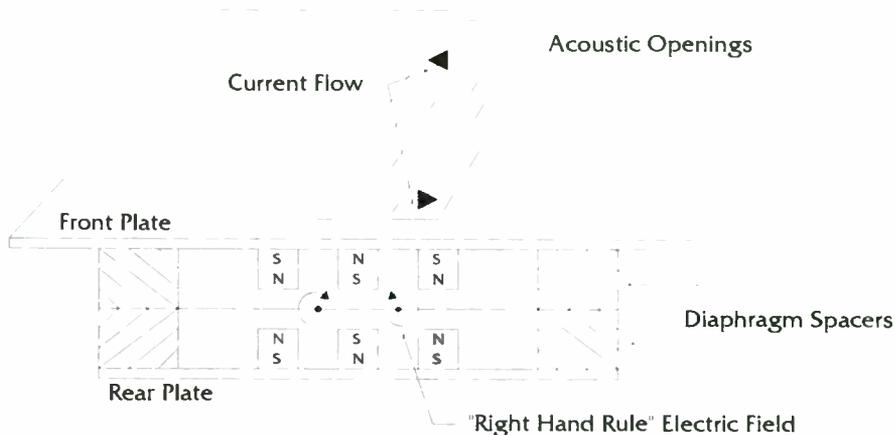
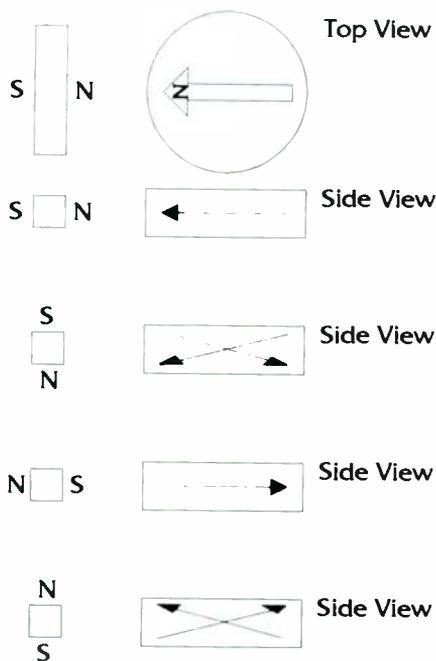

FIGURE 2: Cross section.
FIGURE 4: Magnet pole orientation.
Figure 2 shows a cross section of the plate assembly. Once you bolt this structure together, it is very rigid, not flexing at all. This keeps the magnets in place and prevents them from breaking off. The diaphragm spacers are made with 7/16" x 1" wood. I plan to make these spacers out of aluminum for even greater strength.
Powerful magnets and their proper alignment are paramount to achieving high sensitivity. I arranged the magnets in this structure in a push/pull fashion (Fig. 2). Remember the "right-hand rule" when arranging the magnets in relation to current flow of the conductor. Some magnetic properties are listed in Table 2.
To make sure all the magnets are correctly oriented, I used my trusty Boy Scout compass to determine the poles of the magnets, which must be polarized along their lengths with the poles perpendicular to the speaker diaphragm (Fig. 2). When arranging the magnetic structure, I had trouble gluing the magnets correctly. I suggest arranging all the magnets for proper orientation *before* starting the gluing process. Figure 4 shows my procedure to determine the poles of each magnet.
1. Glue the magnets to the metal plates. As shown in Fig. 4, find the poles of all the magnets you are going to use. It's best to line up all the magnets on the sides of the plate and hold a magnet above the rows to ensure the magnetic field is the same for the full row of magnets. Arrange the rows of magnets so when the front and rear plates are assembled, the faces of each row have the same pole (Fig. 2). It is paramount to follow the "alternating pattern," which keeps all of the diaphragm moving in the same direction.